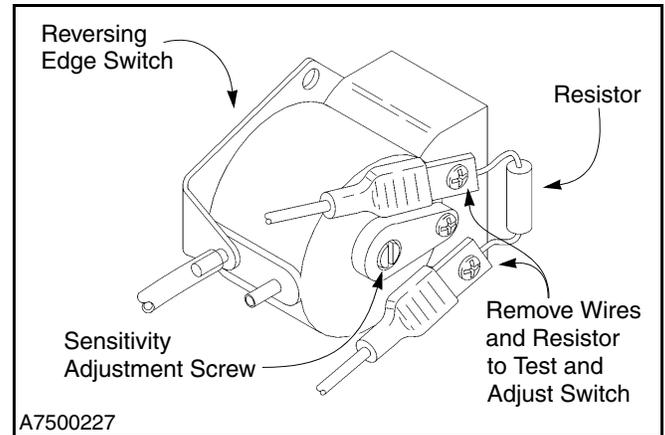

Figure 32
1. The reversing edge switch is a normally open contact. The PVC hose is on the lower air input post. To adjust the switch, first remove the wires and resistor from the contact terminals and attach an ohmmeter across the two terminals. (See Figure 32.)
2. Turn the sensitivity adjustment screw, located on the face of the switch, clockwise or counterclockwise until continuity is achieved. Then adjust the screw three-quarter turn counterclockwise. Adjusting the screw counterclockwise decreases sensitivity, clockwise increases sensitivity. (See Figure 32.)